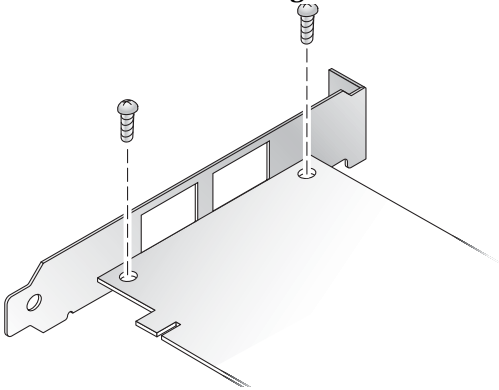

FIGURE 2 Removing the Bracket Screws
- a. **Remove the mounting bracket screws from the HBA (see FIGURE 2).**